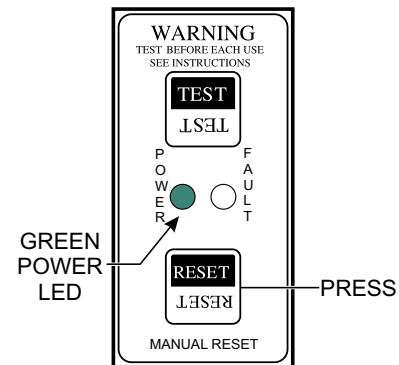

Figure 44. GFCI Module (Green LED ON Reset)
- To restore power, press the **RESET** button (Figure 44) on the GFCI module and verify that the **red** FAULT LED turns **OFF** and the green POWER LED should turn **ON**